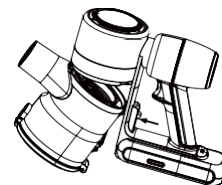

Fig.6
- 2.Press the dust cup release button to separate the dust cup and the handle module (Fig.6)